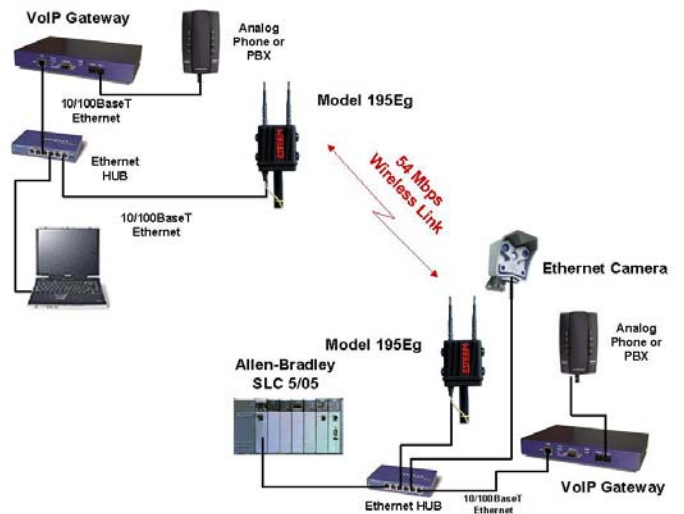

Figure 4: Hardware Setup Diagram
The ESTeem Model 195Eg will provide wireless Ethernet communications to all Ethernet hardware in the system. The mode of operation for this type of application is the ESTeem Access Point Bridge Mode. The Bridge Mode will link multiple Ethernet devices connected to the Model 195Eg through either an Ethernet HUB or Switch on a single wireless Ethernet network (Figure 4). All ESTeem Model 195Egs that are configured for the same Bridge network will link together and allow there connected Ethernet devices to communicate.
The Mobotix M1M camera and VoIP hardware was tested between two (2) Model 195Eg radio modems providing an Ethernet bridge between to network HUBs with multiple Ethernet device attached to each Hub (Figure 4). To test the operation of the camera and VoIP hardware in heavy network use conditions, all Ethernet equipment were running simultaneously.